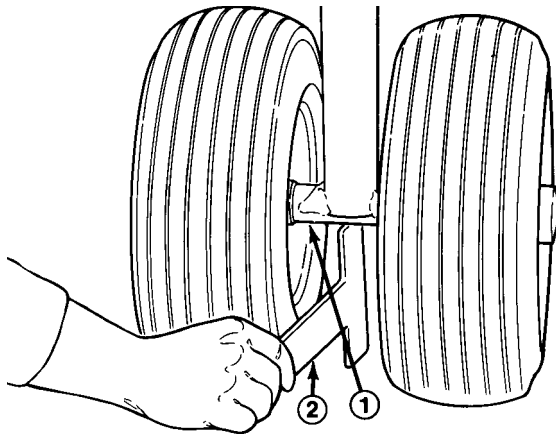

Figure 12
2. Slide the short end of the frame height gauge under the front axle to verify height. The gauge should contact the axle when on the floor. Check both sides (Fig. 12).
- D. Loosen the adjusting screw jam nut and (2) flange nuts (Fig. 12).
- H. Tighten the adjusting screw jam nut and (2) flange nuts.